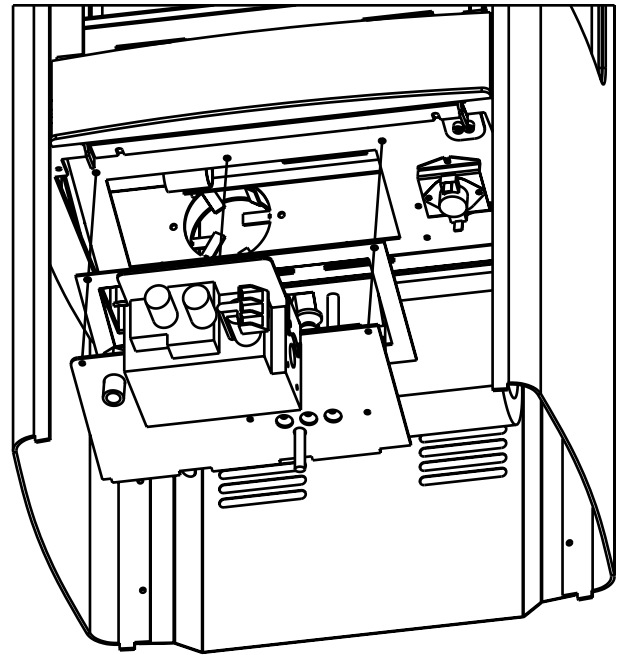

Figure 29
8. From inside the firebox, remove all three of the allen head screws (see Figures 29 & 30) fastening the cassette to the firebox.